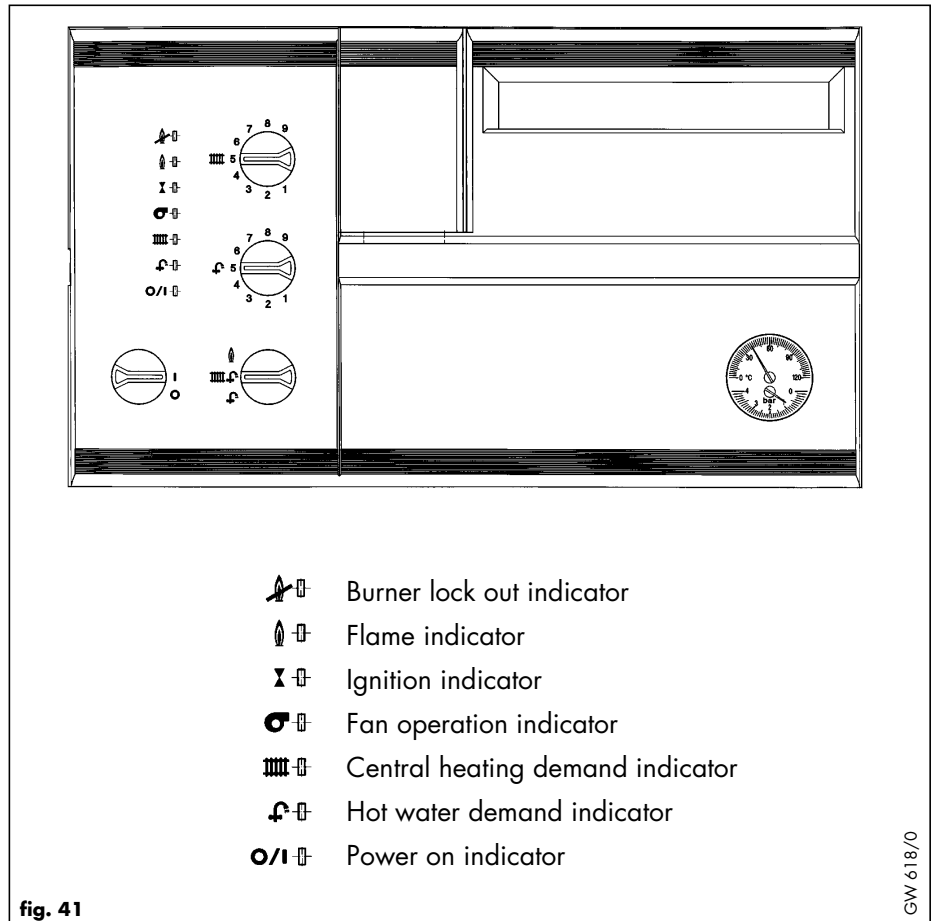

fig. 41
(If the boiler should fail to light the 'lock out' indicator will illuminate - see fig. 41. This usually means that the gas supply is turned off, or is not purged of air. Check gas supply, and turn the central heating control to the reset position - (II) - and repeat lighting procedure).
The Vaillant TURBOmax is equipped with a set of diagnostic indicator lights to show the operational status of the boiler. A functional check of DHW and CH operation can be made using these indicator lights (fig. 41).